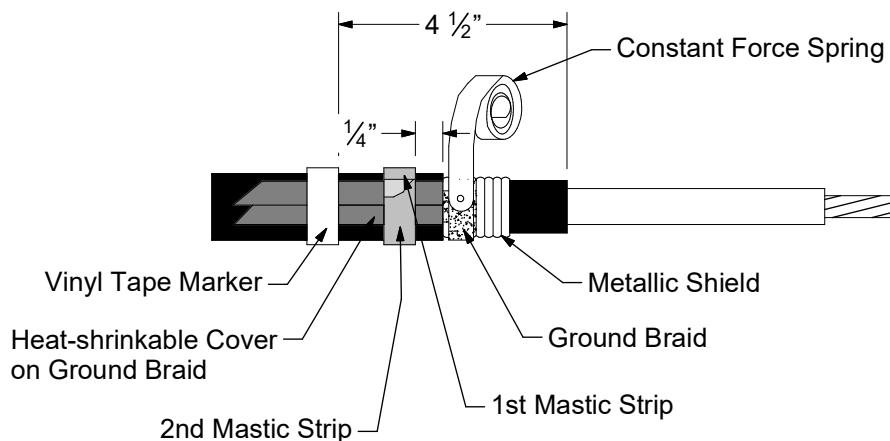

Figure 4A
- Wrap the ground braid around the metallic shield and secure in place with the constant force spring. Tighten the spring after wrapping the final turn. Position the finish ground braid tail over the cable jacket. The finish tail of the ground braid does not have to be on top of the first tail. See Figure 4A.
- Select the second mastic strip from the kit and remove the white release liners. Apply the second mastic strip over the previously applied mastic. If ground braids overlap on cable jacket be sure to apply mastic between the braids. Secure ground braids to cable jacket 4-1/2" from cable semi-con edge using vinyl tape. Apply tape directly over previously applied marker tape. See Figure 4A.